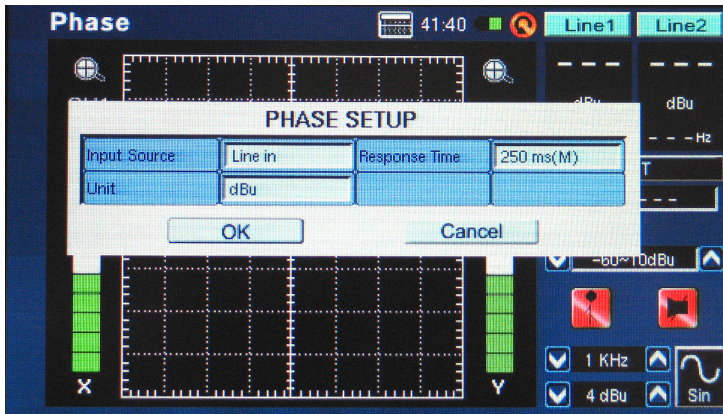

figure 50
1. Enter the SET menu for the Phase function. Here users can adjust the input source, unit and response time. Set the input source to "Line in" (figure 50). The unit is not too important for the results of the phase meter itself, although it's best to set the unit to whatever unit your input signal will be. Select "OK" to return to the phase meter.